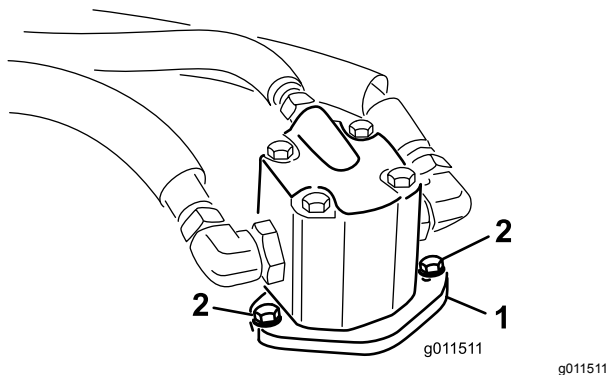

Figure 98
4. Remove the bolts securing the hydraulic motor to the mower deck (Figure 98).